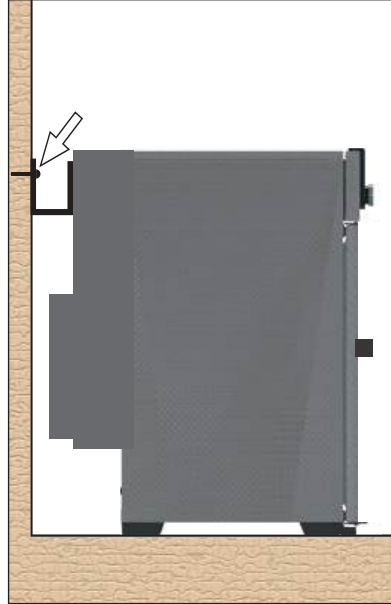

Fig. 16 Screw the tilt protection onto the wall
3. Drill a hole, insert a dowel and screw the tilt protection to a suitable wall (Fig. 16).